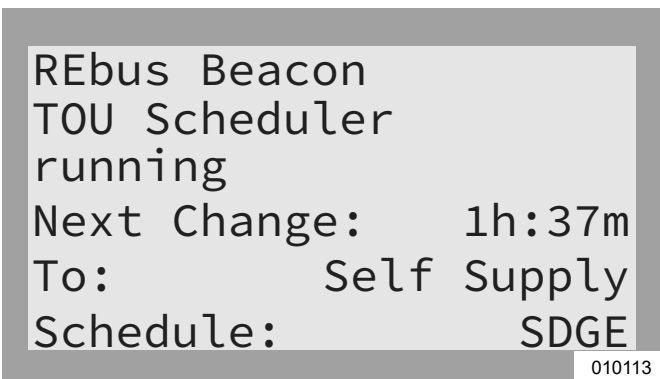

Figure 6-24. Disabling TOU Scheduler (1 of 3)
1. See Figure 6-24. Navigate to the Beacon device page and press the center button to enter the device menu.